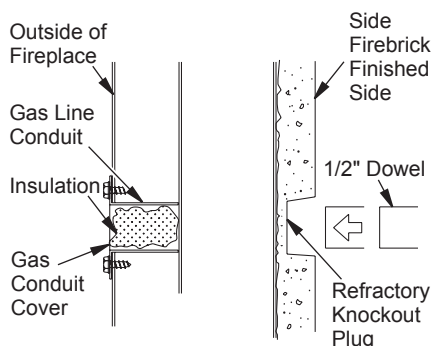

Figure 19 - Gas Line Knockout
1. Remove knockout indentation on refractory or firebrick wall located above the refractory hearth floor. The knockout indentation must be firmly tapped with any solid object such as a 1/2" dowel until it is released. Remove fragmented portions of refractory (see Figure 19).